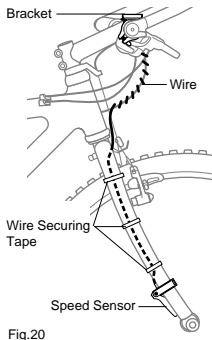

Fig.20
- Secure the wire with the wire securing tape as in Fig. 20. Wind the wire round the outer cable up to the handlebar. When adjusting the length, be careful that the wire will not hinder handlebar operation.